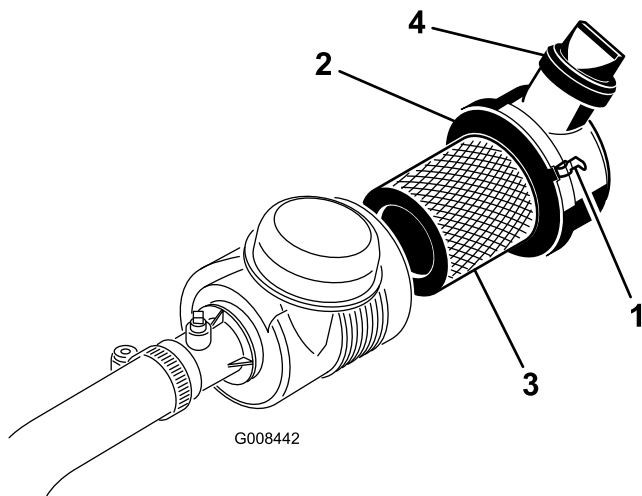

Figure 33
1. Release the latches that secure the air-cleaner cover to the air-cleaner body (Figure 33).
7. Ensure that the latches secure the cover to the body (Figure 33).